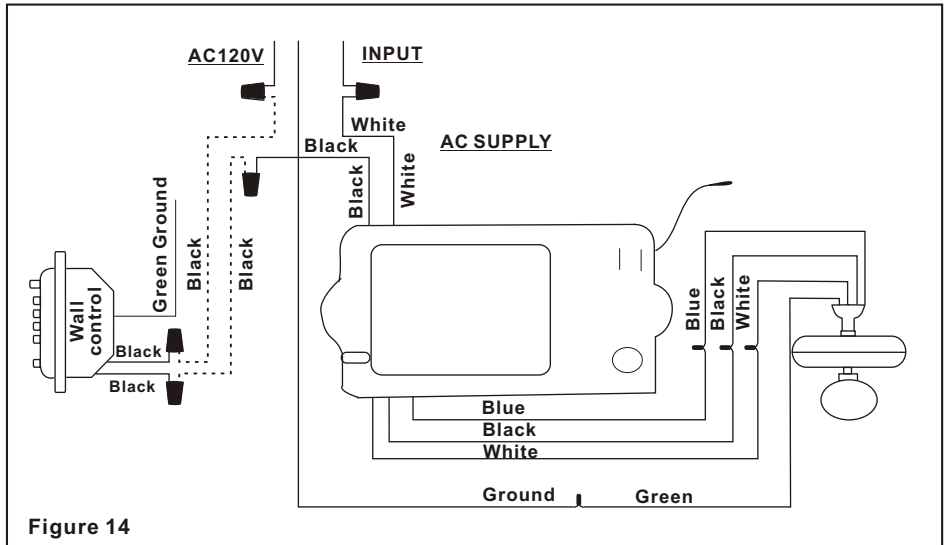

Figure 14
Step 2. Make the electrical connections as shown in (Fig. 14). If your outlet box has a ground wire (green or bare copper) connect the wall transmitter's ground wire to it; otherwise connect the wall transmitter's ground wire directly to one of the screws from the outlet box.
Step 2. Slide the canopy up to ceiling and over the two screws on hanger bracket. Rotate canopy clockwise. Next, while holding the canopy with one hand, slide the canopy cover over the screws and rotate clockwise until tight. **Note:** adjust the canopy screws as necessary until the canopy and canopy cover are snug. (Fig. 14)